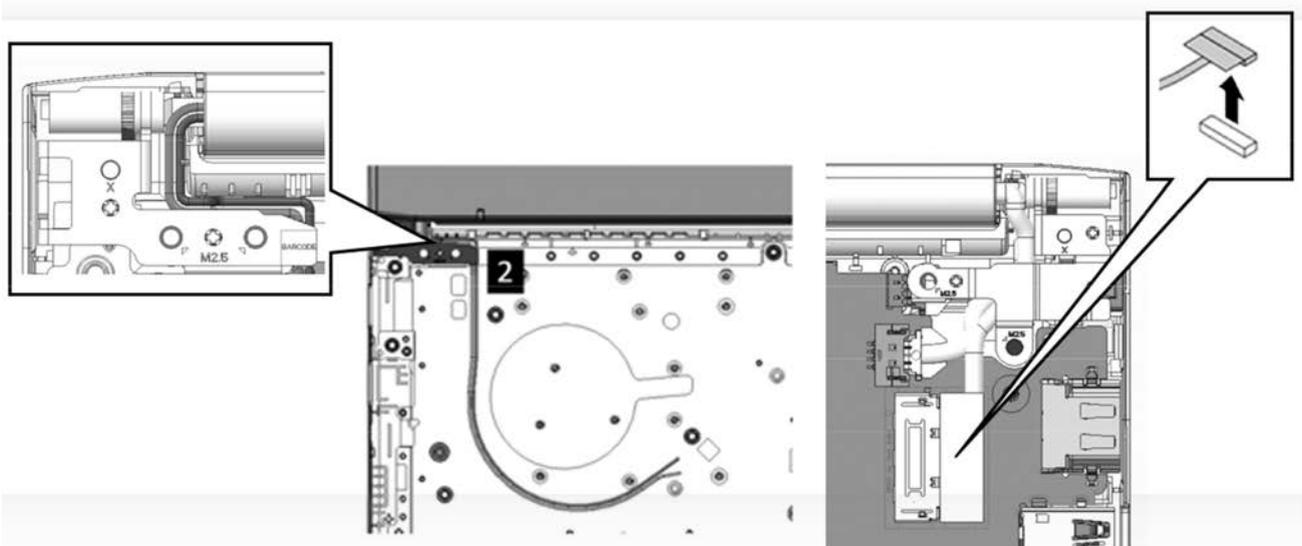
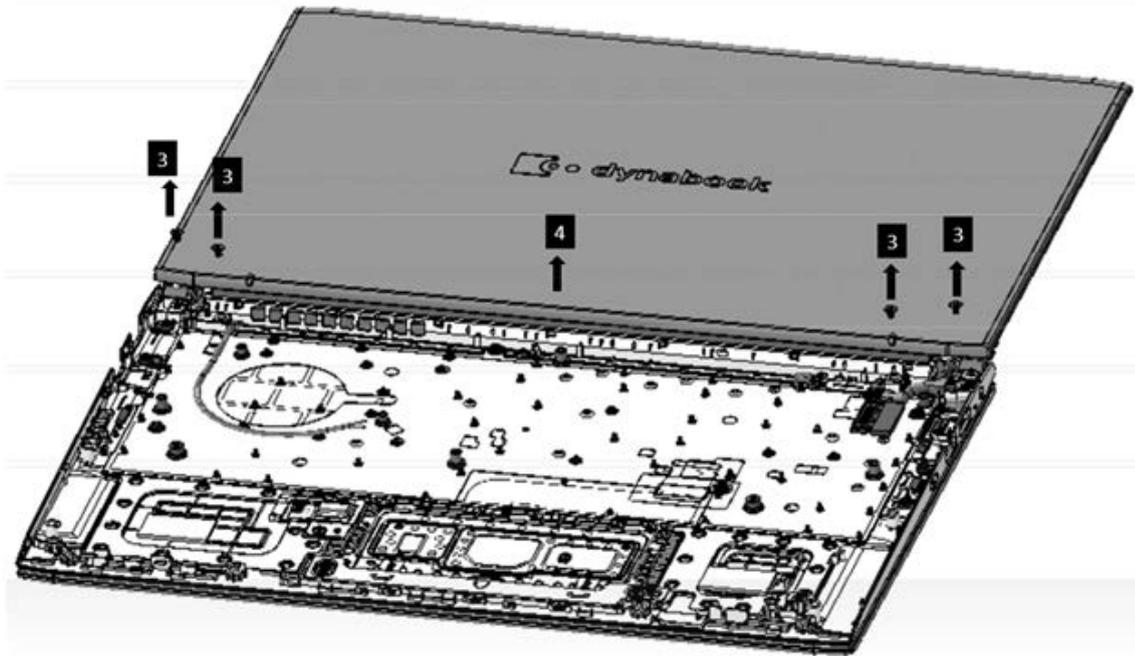

Figure 4-17 W-LAN /edp Cables Routing Channel
Figure 4-18 Removing the LCD Assembly
Remove the LCD assembly according to the following procedures and Figure 4-17 and Figure 4-18.
1. Pull the W-LAN cables and edp cable out of the routing channels as shown in Figure 4-17.
2. Remove the four M2.5x5 screws ,3 securing the LCD assembly as shown in Figure 4-18.
3. Make sure all cables are moved away from the logic upper assembly to avoid damaging the system when removing the LCD assembly. Lift away the LCD assembly from the logic upper assembly as the arrow ,4 indicates in Figure 4-18.
3. Tighten the four M2.5×5 screws to secure the LCD assembly to the logic upper assembly as shown in Figure 4-18. ,3
4. Route and secure the W-LAN cables and edp cable in the routing channels on the logic upper assembly as shown in Figure 4-17. ,2 ,1